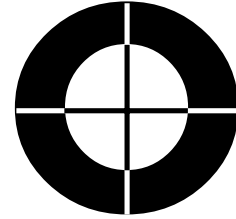

FIGURE 1
**Figure 1** shows an aiming screen in which the bladder is completely contained within the scan cone. In this case, the measurement is accurate and the volume is displayed without the > symbol.